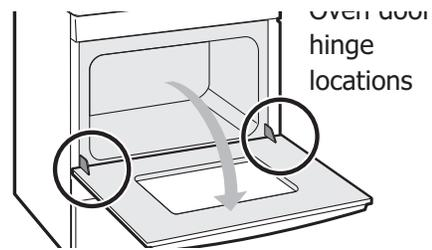

Figure 26: Door hinge location
1. Open oven door completely, horizontal with floor (See Figure 26).
3. Fully open the oven door, horizontal with floor (See Figure 26).